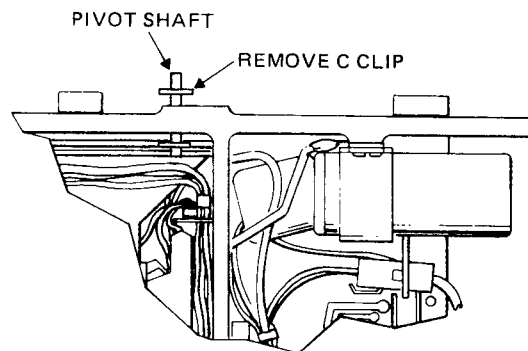

FIGURE 7 CARTRIDGE GUIDE REMOVAL
- b. Remove C-clip form pivot shaft. Reference Figure 7.